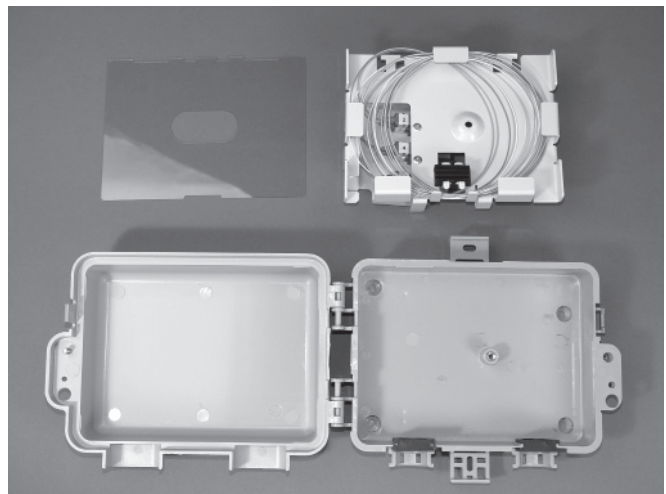

Figure 2
2. Remove screw holding the metal fiber management patching/splice tray in place and remove it from the box (Figure 2).